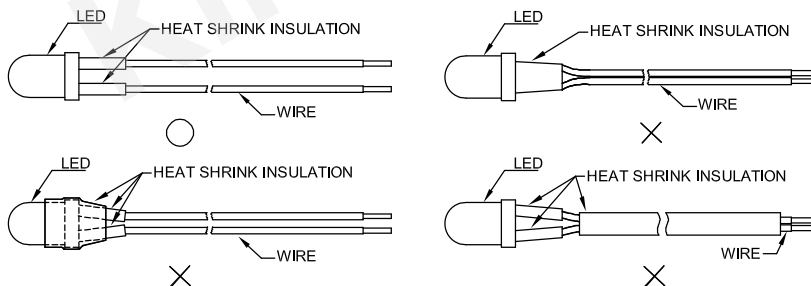

Fig. 2
3. When soldering wires to the LED, each wire joint should be separately insulated with heat-shrink tube to prevent short-circuit contact. Do not bundle both wires in one heat shrink tube to avoid pinching the LED leads. Pinching stress on the LED leads may damage the internal structures and cause failure. (Fig. 2)